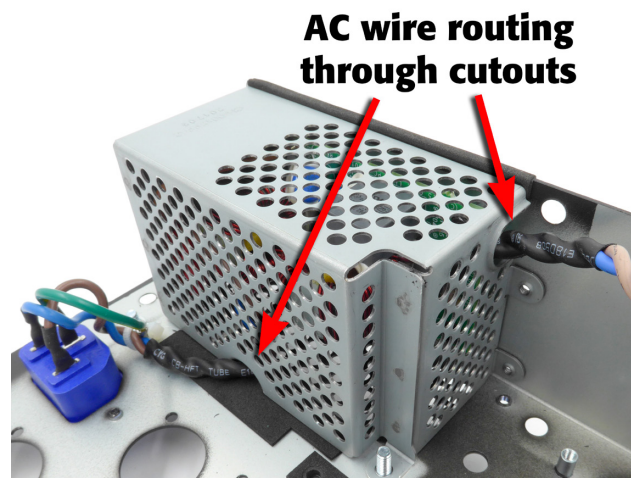

Figure 6.5.4 - AC wiring guideline through EMI shield cutouts
5. Carefully install the EMI shield into the chassis. Verify the AC wiring dressing at the bottom and sides of the shield to ensure they are not pinched. See Figure 6.5.4.